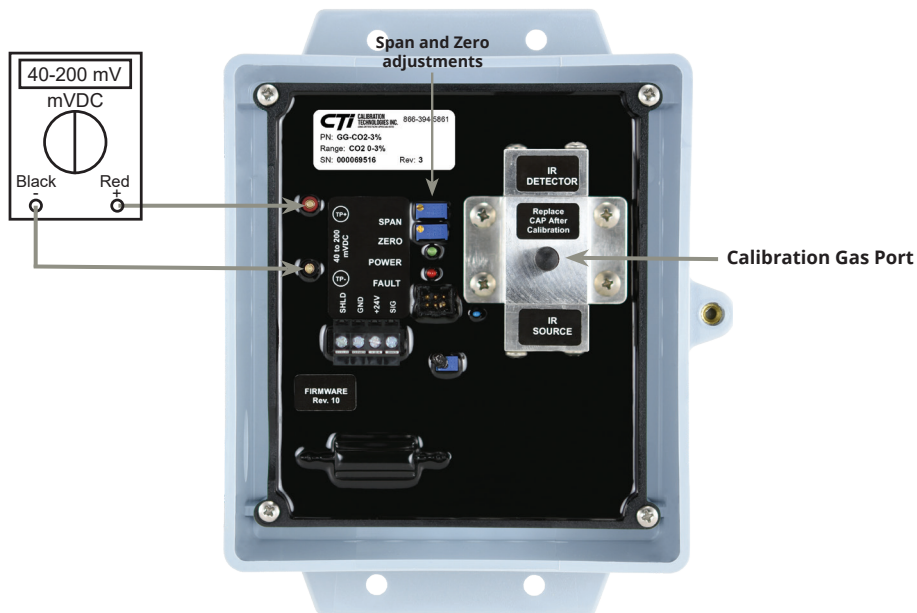

Figure 2: Sensor output and zero/span adjustments
- Adjust the zero pot until the voltmeter reads the following mVdc on the test points [-] to [+] (see Figure 2).
- Connect tubing to the calibration port of the infrared tube. (see Figure 2)